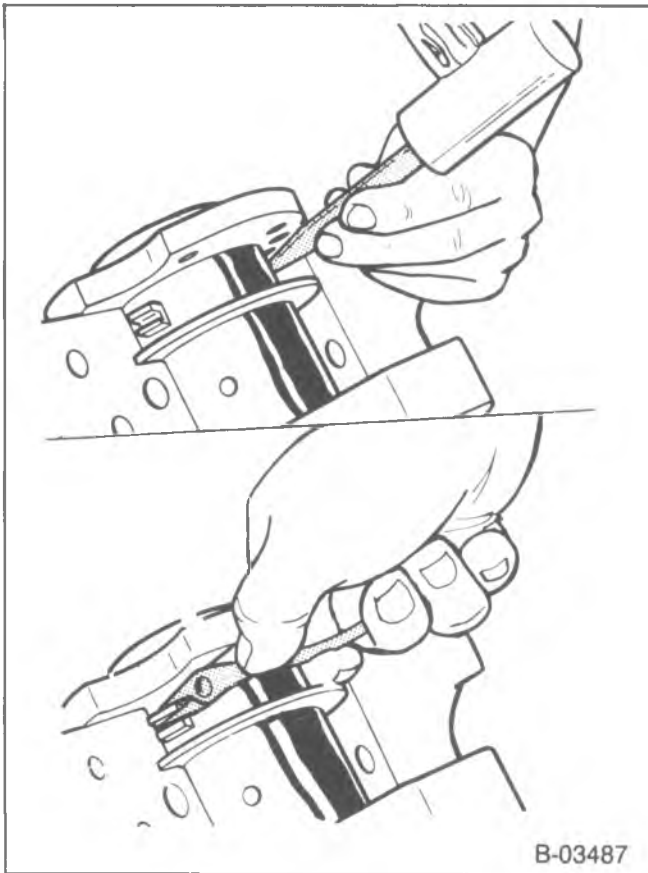

Figure 19—Removing the Upper Oil Seal Half
4. Upper seal half (figure 19).